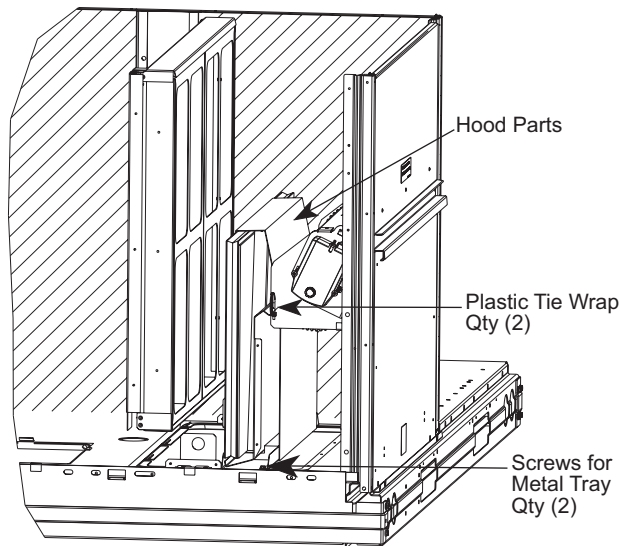

Fig. 10 — Economizer Hood Parts Location
2. Locate the (2) screws holding the metal tray to the basepan and remove. Locate and cut the (2) plastic tie-wraps securing the assembly to the damper. See Fig. 10. Be careful to not damage any wiring or cut tie-wraps securing any wiring.